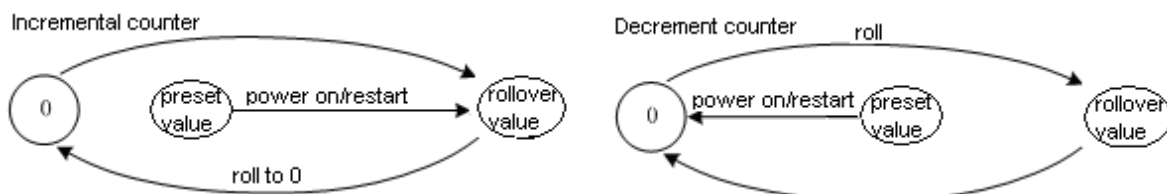

Figure 10.63: Preset value and rollover value of LK680 counters
- It is worth noting that, when the count reaches the rollover value, the counter will roll over to 0, and start counting from 0, not the preset value, as shown in Figure 10.63.